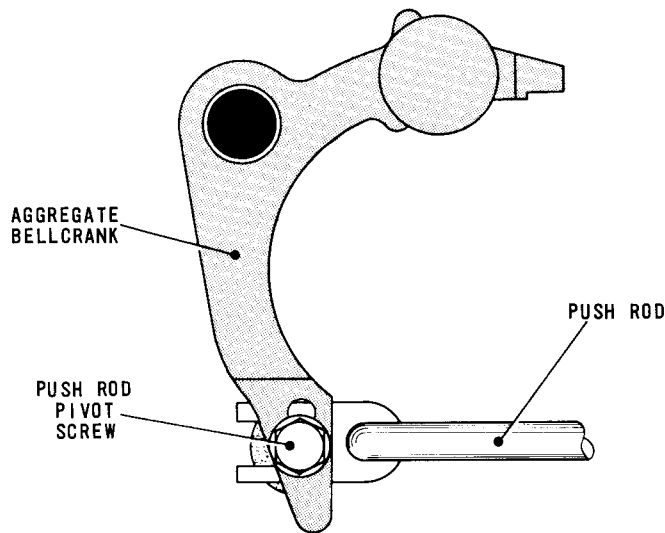

Fig. 4.52 PUSH ROD/AGGREGATE BELLCRANK LINKAGE—REAR VIEW
- 60.2 To adjust, remove the reperforating attachment, slacken the pivot screw securing the push rod, Fig.4.52, to No.5 aggregate bellcrank (nearest the front of the machine) and adjust the pivot in its slot until the typehead backlash is equal in both directions. Tighten the pivot screw. Refit the reperforating attachment unless it is intended to check Adjustment Nos.61 to 64 below.
- 61.2 To adjust, remove the reperforating attachment, slacken the pivot screw securing the push rod, Fig.4.52, to No.4 aggregate bellcrank and adjust the pivot in its slot until the typehead backlash is equal in both directions. Tighten the pivot screw. Refit the reperforating attachment unless it is intended to check Adjustment Nos.62 to 64 below.
- 62.2 To adjust, remove the reperforating attachment, slacken the pivot screw securing to push rod, Fig.4.52, to No.1 aggregate bellcrank and adjust the pivot in its slot until the typehead backlash is equal in both directions. Tighten the pivot screw. Refit the reperforating attachment unless it is intended to check Adjustment Nos.63 and 64 below.
- 63.2 To adjust, remove the reperforating attachment, slacken the pivot screw securing the push rod, Fig.4.52, to No.3 aggregate bellcrank and adjust the pivot in its slot until the typehead backlash is equal in both directions. Tighten the pivot screw. Refit the reperforating attachment unless it is intended to check Adjustment No.64 below.
- 64.3 To adjust, remove the reperforating attachment, slacken the pivot screw securing the push rod, Fig.4.52, to No.2 aggregate bellcrank and adjust the pivot in its slot until both the above conditions are satisfied. Tighten the pivot screw.